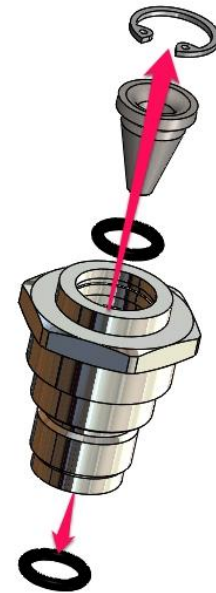

Fig. 21
27. Remove and discard the Retaining Ring 3530, Filter 3545, O-Ring 2.011 and O-Ring 2.013 from the Yoke Retainer (Fig. 21).